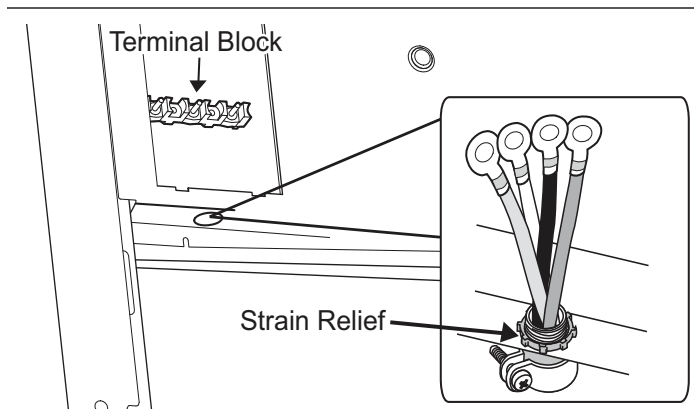

Figure 10: Strain Relief Location
Locate the terminal block on the rear of the unit and remove cover (refer to *Figure 10*). The conduit must be installed to the terminal block using an approved conduit connector. The free end of the conduit must be connected to a terminal block provided in the electrical supply zone, as shown in *Figure 5 on page 11*.
Mount a strain relief (not provided) into the 1" (25.4 mm) diameter hole located below the terminal block (see *Figure 10*). Wiring for the unit is to be brought into the terminal block through the conduit and through the strain relief. The ends of the wiring must have 1/4" (6 mm) faston closed-loop lugs attached, preferably soldered in place. Make the connections to the terminal block provided.
1. Locate the terminal block on the rear of the unit and remove cover (see *Figure 10*).